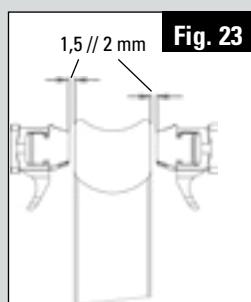

Fig. 23
1. Adjusting shoe guards (3mm Allen key, Fig. 23): rotate clockwise and the shoe will move away from the rim; rotate anticlockwise and it will move closer to the rim.